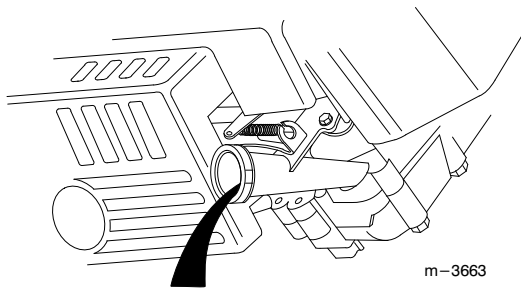

Figure 19
6. Tip the lawn mower onto its left side, allowing the oil to drain into the drain pan (Fig. 19).